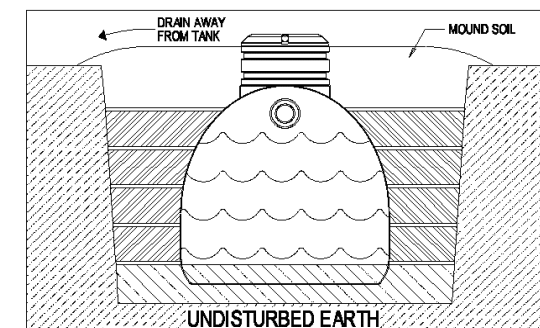

Figure 5.
- Mound the soil over the cistern to provide positive drainage away from the tank and to allow for soil settling in the excavated area. [Figure 5]